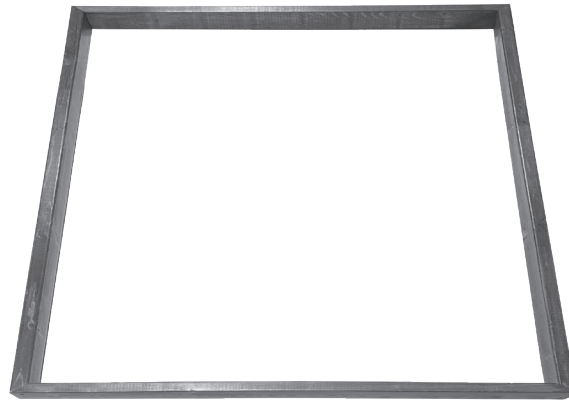

Fig. 3
Starting with **Group One** – Arrange the (4) pieces according to their letters: **A to A, B to B, C to C, & D to D** creating a square picture frame with the letter face up (*Fig. 1*). Insert two gold triple coated Deck Screws in the predrilled holes at each corner (*Fig. 2*). **Repeat the process at each corner to complete the frame** (*Fig. 3*).